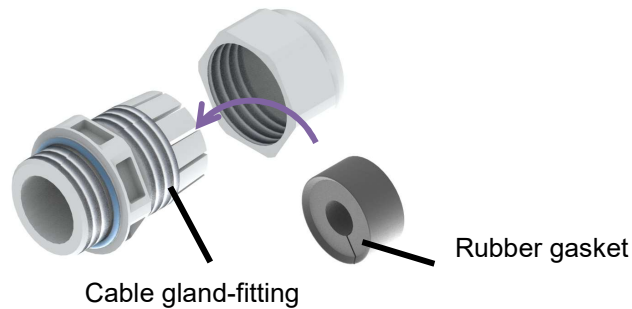

Figure 13 Direction of the Rubber Gasket
7. Check the correct direction of the rubber gasket which is also shown in Figure 13 to ensure waterproofness of the connection !